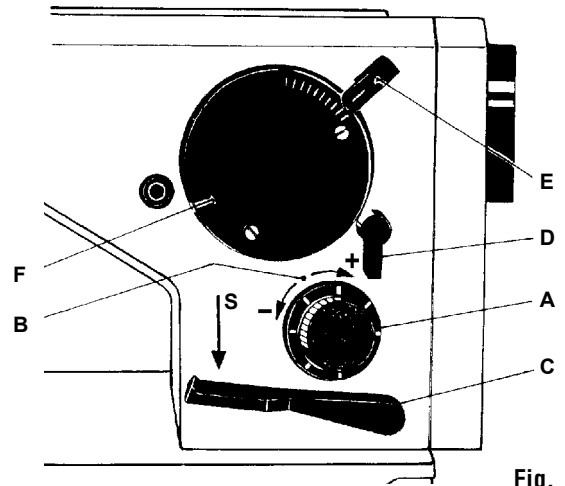

Fig. 8
6.6 Adjustment of the stitch length, reverse stitching (Fig. 8, 9)
6.7 Adjustment of the zigzag stitch width (Fig. 8)